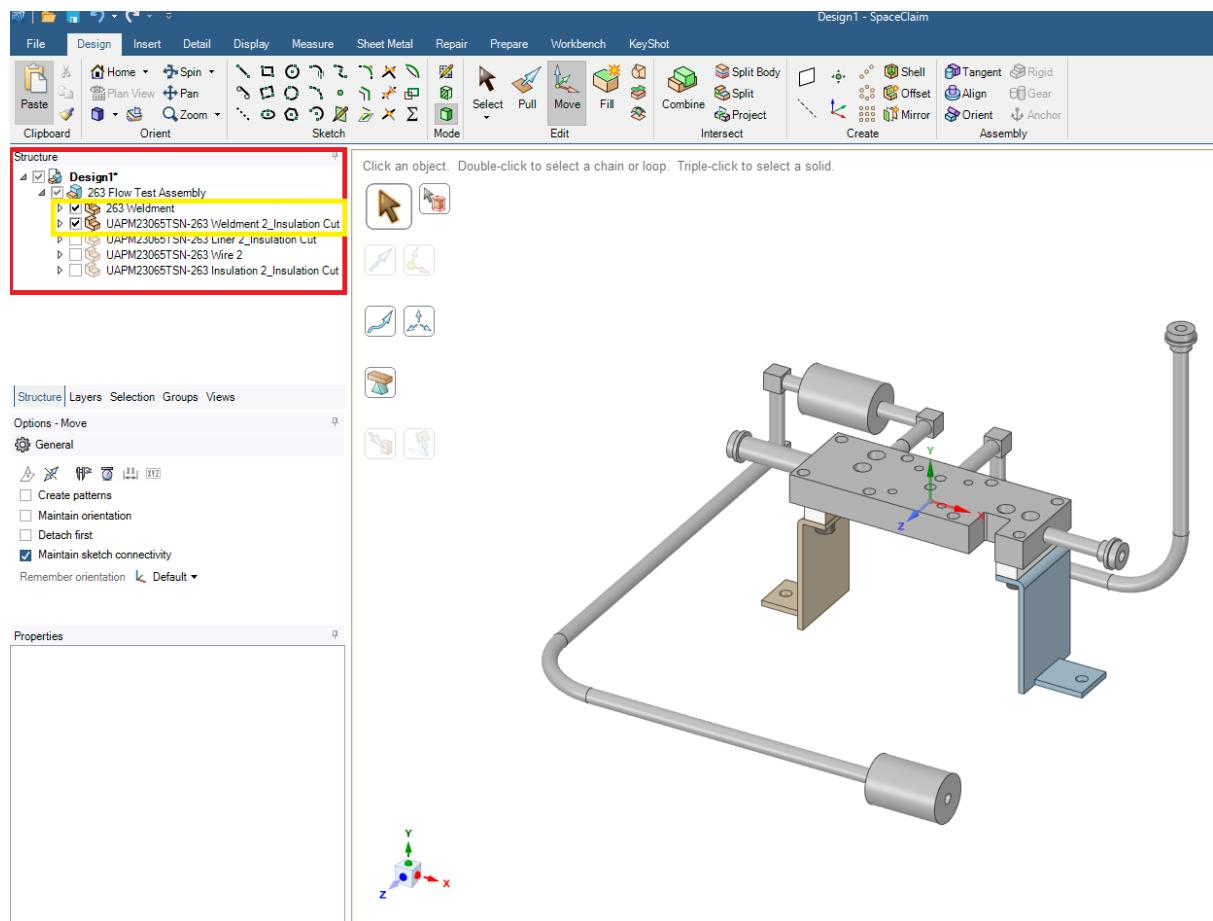

Figure 1.26:
1. In this stage we will be extracting the fluid volume that flows within the weldment. To do this start by hiding all other components beside that of the weldment(s) as shown in Figure 1.26.